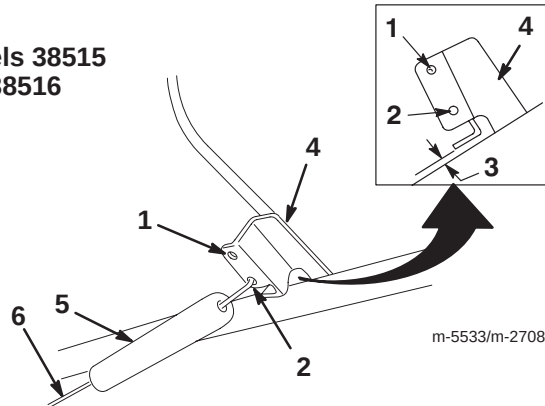
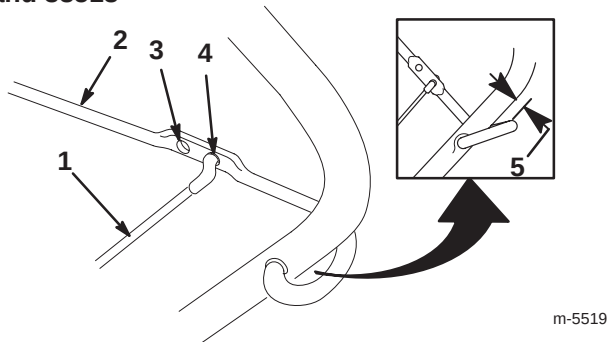
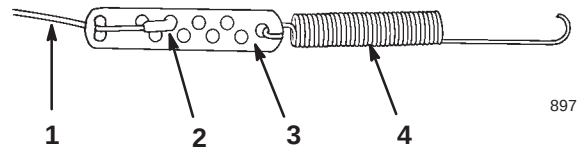

Figure 16
Figure 17
Figure 18
2. Move the control bar back toward the handle to remove the slack in the cable as shown in Figure 16 (for models 38515 and 38516) or Figure 17 (for models 38517 and 38518).
1. Unhook the spring end from the control bar (Fig. 16).
2. Slide the spring cover off the spring and the cable adjuster (Fig. 18).
3. Unhook the Z-fitting from the cable adjuster (Fig. 18) and position the Z-fitting in a higher or lower hole on the adjuster to obtain a proper gap of 1/16 to 1/8 in. (2 to 3 mm) between the control bar and the handle (Fig. 16).
1. Unhook the upper cable end from the hole in the control bar (Fig. 17).
3. Unhook the Z-fitting from the cable adjuster (Fig. 18) and position it in a higher or lower hole on the adjuster to obtain a gap of 1/16 to 1/8 in. (2 to 3 mm) between the control bar and the handle (Fig. 9).
After extended use, the drive belt may wear and lose its proper belt tension. Improper belt tension causes the belt to slip and decreases the performance under a heavy load. Belt slippage may occur after 2 or 3 seasons of normal usage (10 to 15 hours). If the drive belt slips (continuously squeals) under a heavy load, increase the belt tension by inserting the spring end into the top hole of the control bar (Fig. 16 or Fig. 17).